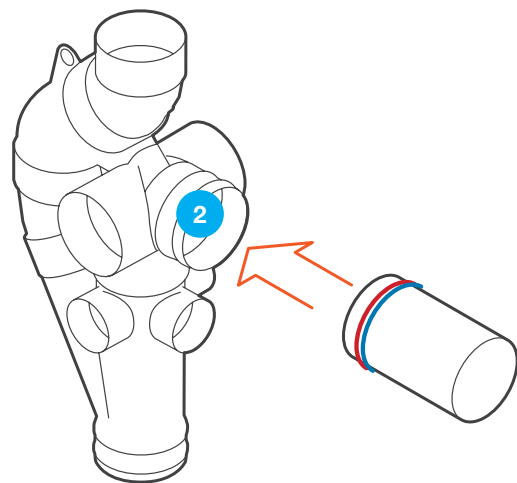

Figure 9
- 8.4.1** Primer & Solvent cement join the 100DN plug into the top centre 100DN inlet (Position (2)) (see Fig. 9).